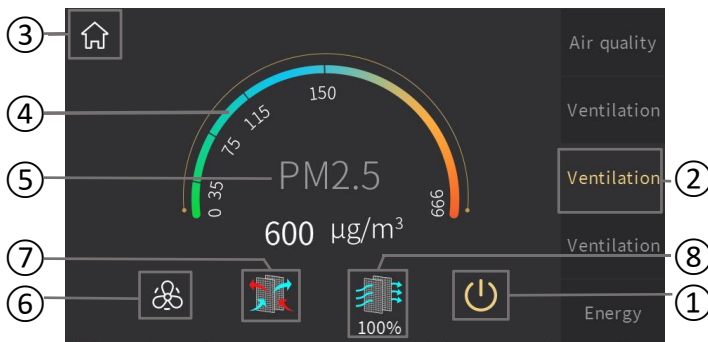
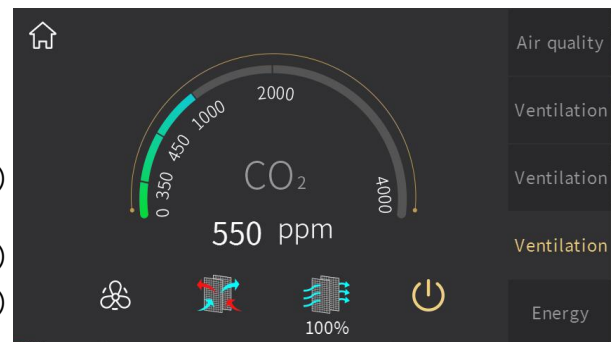

Fig.2.6.1
Fig.2.6.2
Fig.2.6.1 and Fig.2.6.2.
PM2.5 concentration as shown in Fig.2.6.1, according to the value received from the bus, range 0~999ug/m³; if the data exceed 999ug/m³, then the interface will display 999ug/m³.
CO₂ concentration as shown in Fig.2.6.2, according to the value received from the bus, range 0~4000ppm; if the data exceed 4000ppm, then the interface will display 4000ppm.
⑦ This is the heat recovery icon, used to turn on or off heat recovery function;
Whether heat recovery function of ventilation system is enable or not is configured through parameter configuration. When disable, there will be no display of heat recovery function on the interface as shown in Fig. 2.6.1; when enable, heat recovery function is turned on by default when ventilation system is ON, and the heat recovery function can be turned on or off by touching icon⑦. The icon on indicates that the heat recovery is on; the icon off indicates that the heat recovery is off. In addition, heat recovery function can be turned on or off through the bus. After disable heat recovery, any touching of icon⑦ will respond.
⑧ This icon is the filter timer icon;
Whether the filter timer counter function is enable or not is configured through parameter configuration. When disable, there will be no display of filter timer counter function on the interface as shown in Fig.2.6.1; when enable, icon⑧ will be colorful after ventilation system ON, the remaining evaluation value will be displayed next to it. The value will be updated according to the use time, which will be updated through the bus.